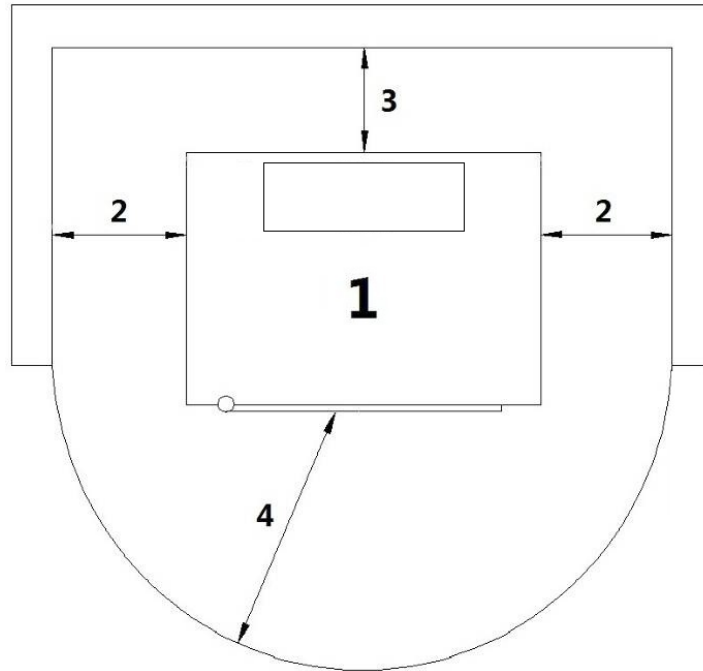

Fig. 13 - General installation
LEGEND	Fig. 13 page 14
- It is obligatory to install the stove away from walls and/or pieces of furniture, with a minimum air flow of 200 mm on the sides and 200 mm on the back, to enable an efficient appliance cooling and a good distribution of heat in the room (see **Fig. 13 page 14**).
- For safety fire regulations the distances from flammable or sensible to heat objects (sofas, pieces of furniture, wooden covering, etc...) must be respected, as described in **Fig. 13 page 14**.
- If the walls are made up of flammable materials, check the safety distances (see **Fig. 13 page 14**).